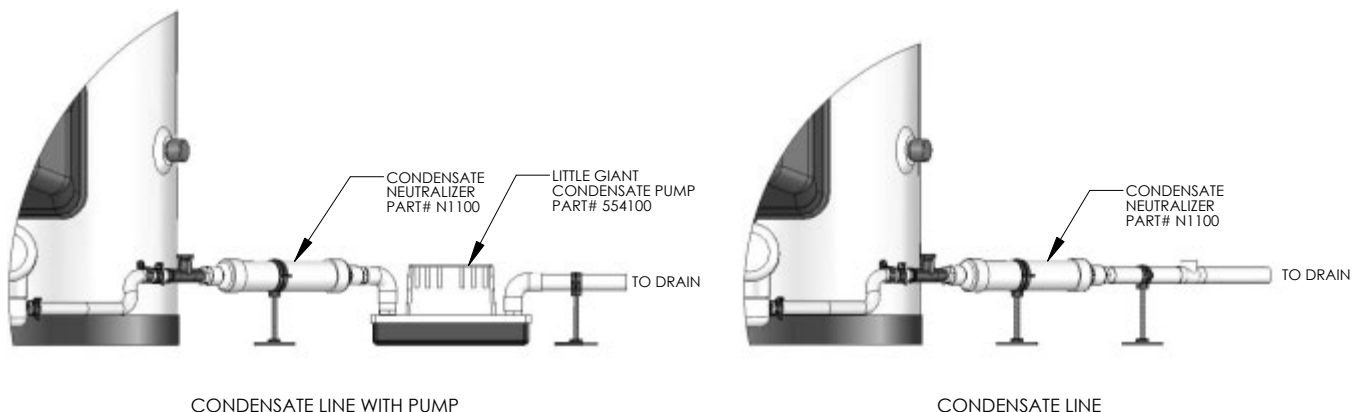

Fig. 1
4. Horizontal lengths of exhaust vent must slope back towards the water heater not less than 1/4" per foot to allow condensate to drain from the vent pipe. If the exhaust pipe must be piped around an obstacle that results in the creation of a low point, condensate will collect in this low point and form a blockage. This condensate must be drained away using a field-installed condensate drain assembly as shown. (See Fig. 1 Section 5)